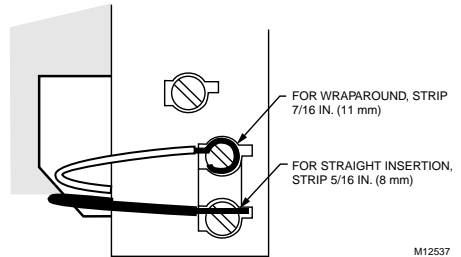

Fig. 5. CT3451 methods for wiring connection.
- Loosen the terminal screws and slip each wire beneath its matching terminal. The shape of the terminals permit insertion of straight or wraparound connections. See Fig. 5. Tighten the terminals.